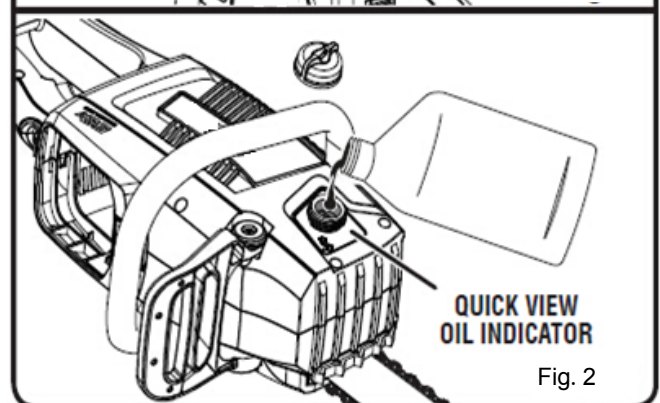

Fig. 2
- ⚠ **NOTE:** Remove battery pack from unit. Fill oil tank with bar and chain lubricant (not provided) before starting the chain saw. Failure to lubricate the chain will cause damage to the bar and chain. (Fig. 2)
CHAIN OILING SYSTEM (Fig. 2)